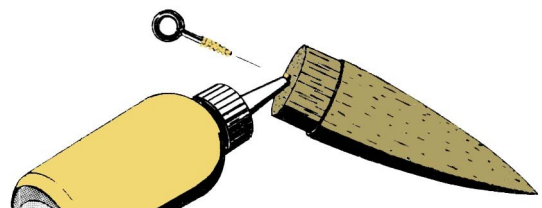

Figure 6
- **Step 39** Using the threads of the screw eye, cut a hole through the center of the BNC-50Y shoulder. As shown in Fig. 6 above, reverse the screw eye back out, then force full-strength glue into the hole. Coat the threads with glue, then re-thread the screw eye into the hole. Do not wipe away the excess glue. Let this dry in an inverted position (screw eye up) while the glue dries.